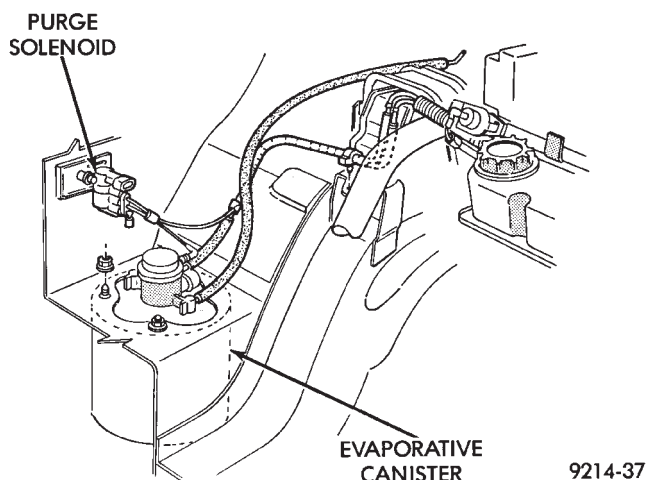

Fig. 3 Electrical Connector Canister Purge Solenoid
(3) Verify the electrical connector is attached to the Purge Solenoid (Fig. 3).
(4) Verify vacuum connection at Purge Solenoid is secure and not leaking (Fig. 3).